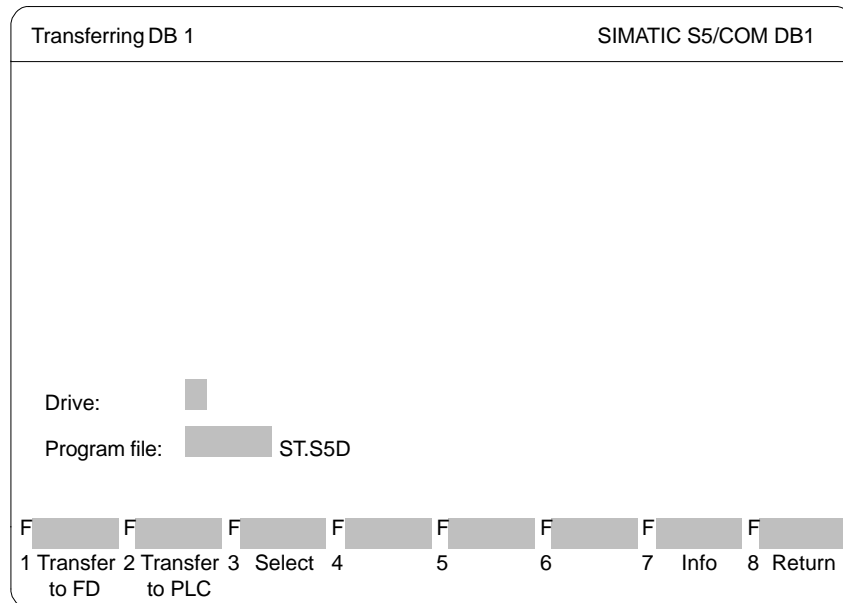

Figure 23-18 COM DB1 "Transferring DB1" Dialog
1. Press **F3** = *Transfer DB1* in the *Overview table* dialog (see *Figure 23-18*).